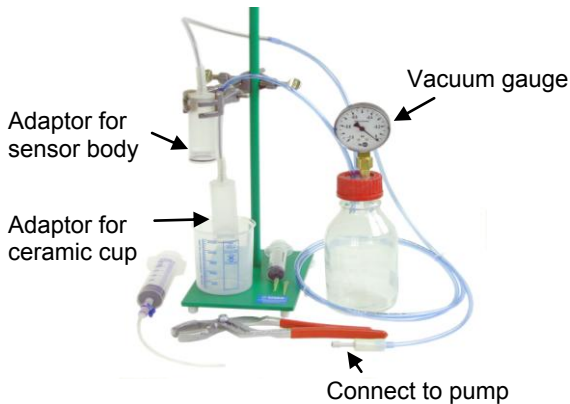

Fig. 4.1: UMS laboratory refill kit BKT468
1. Set up the refilling kit and connect the vacuum pump as shown in fig. 4.1. The pump should achieve at least $0,8$ kPa against vacuum. Use distilled or de-ionized water which necessarily does not have to be degassed when a pump is used.